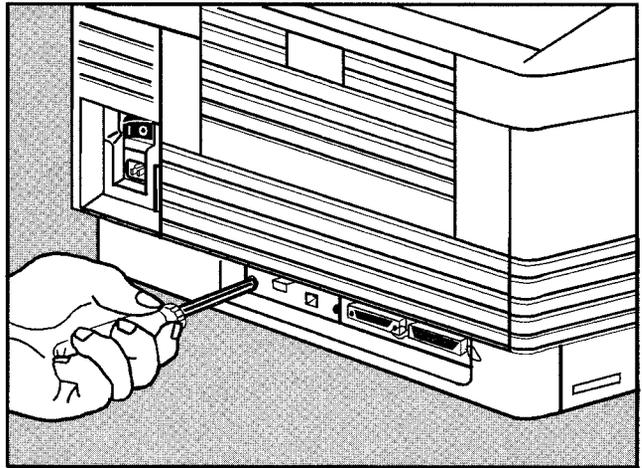

Figure 3-14. Tightening the Faceplate Screws
6. Once the card's faceplate is flush with the printer, tighten both screws to secure it in place. See Figure 3-14.